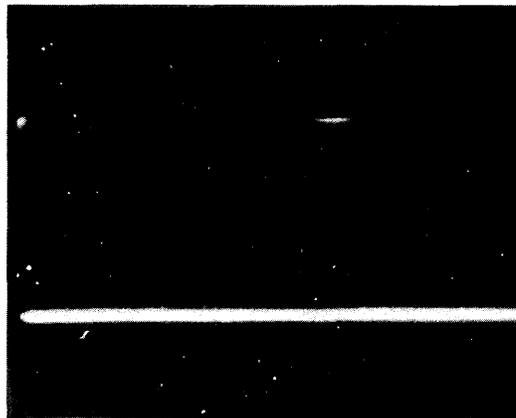

Figure 4-5. Drive Speed Adjustment
- c. Initiate forward drive from clear leader using the cassette exerciser, and adjust R2 on the Servo Card so that the period between the leading edges of two consecutive pulses is  $125 \pm 10$  microseconds (8 kHz  $\pm 10$  percent) during the first five feet of tape (six second drive from clear leader). (See figure 4-5.) It may be necessary to rewind the tape several times in order to make this adjustment within the specified area of tape.
- e. Adjust R1 on the Servo Card for an end of tape speed of  $125 \pm 10$  microseconds between the leading edges of two consecutive pulses (see figure 4-5).
- g. Adjust R3 on the Servo Card for 125  $\pm$ 10 microseconds while driving the tape backwards within 50 feet of BOT (refer to figure 4-5).